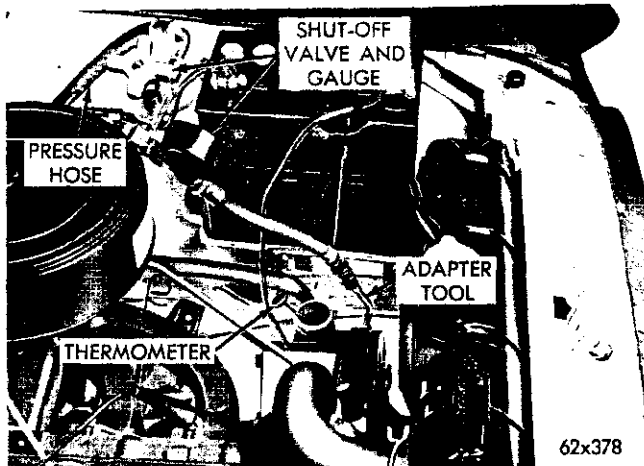

Fig. 55—Testing Oil Temperature in Pump Reservoir
(6) With the engine operating at 500 rpm and no steering effort applied, oil temperature should be between 150 and 170 degrees F. (measure with a thermometer in the reservoir (Fig. 55); the pressure gauge should show a pressure of less than 100 psi. If the pressure is higher, inspect the hoses and connections for kinks and obstructions, or restrictions in the steering gear.
(7) Increase the engine speed to 1000 rpm, then slowly close the gauge shut-off valve. With the gauge shut-off valve fully closed the pump pressure should be as follows: